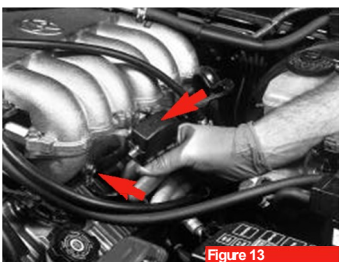

Figure 13
16. At the driver's side of the engine, remove the diagnostic plug from its mounting bracket (upper arrow, figure 13) and set it aside. Remove the bolt and bracket that holds the diagnostic connector to the stock manifold and save for reassembly. Remove the ground wire and move it to one side (lower arrow, figure 13).
Note: The gasket between the surge tank and the manifold (figure 13) is interchangeable with the supercharger intake manifold gasket (see section B-2).